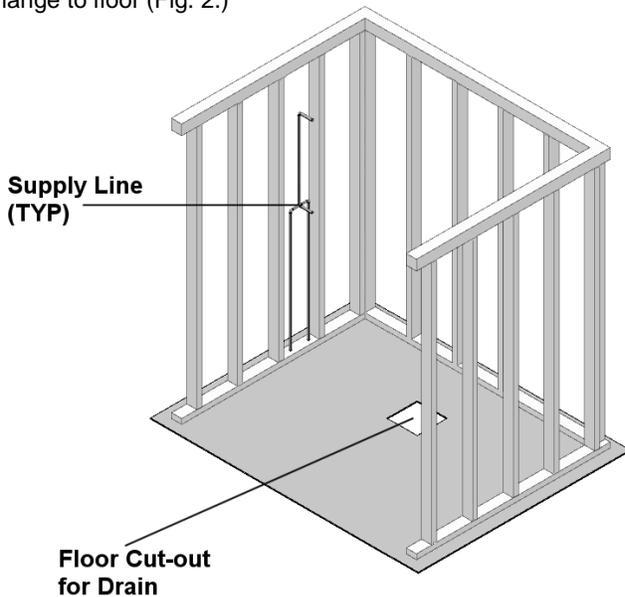

Fig. 1
1. Square and plumb a framed recess pocket (see Fig.1) to the outside dimensions of the unit, as shown in the table of Framing Dimensions.
2. Rough in supply line, but do not strap. (Fig. 1)
3. Locate correct position for drain and trap and cut out floor, leaving clearance for final positioning and hook up. (Fig. 1)